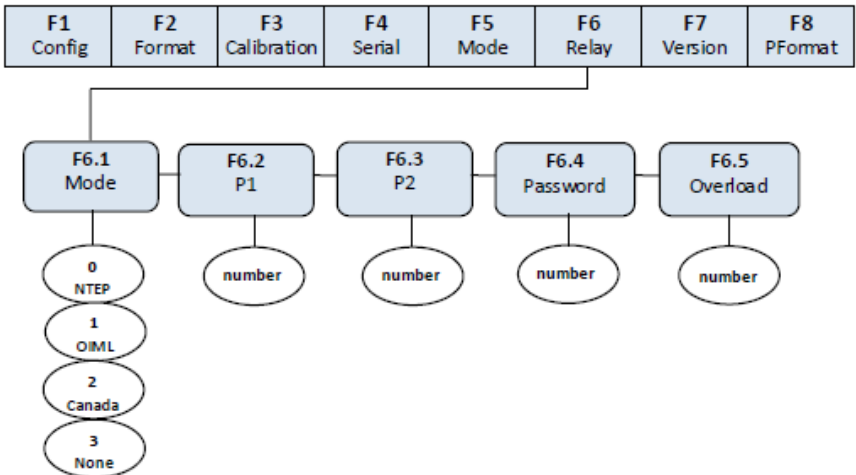

Fig. 12.1 Relay Output Menu
- (1) Turn on the SW2 switch to set indicator to the Configuration mode (display shows “F1”).
- (2) Press  until display shows “F6” (see Fig. 12.1). Press  to go to